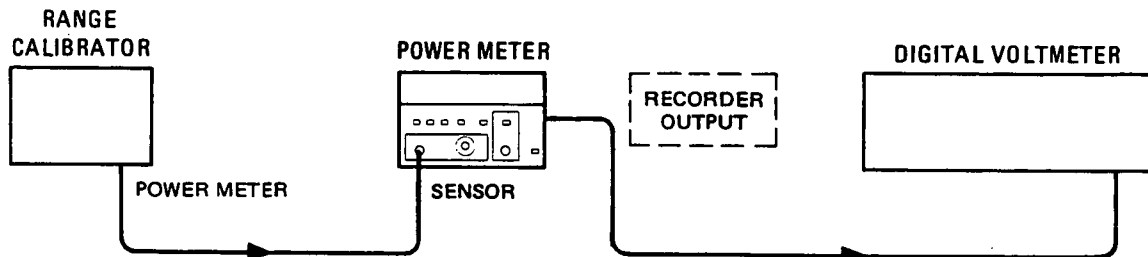

Figure 5-5. A-D Converter and Linear Meter Adjustment Setup
3. Connect the equipment as shown in Figure 5-5.